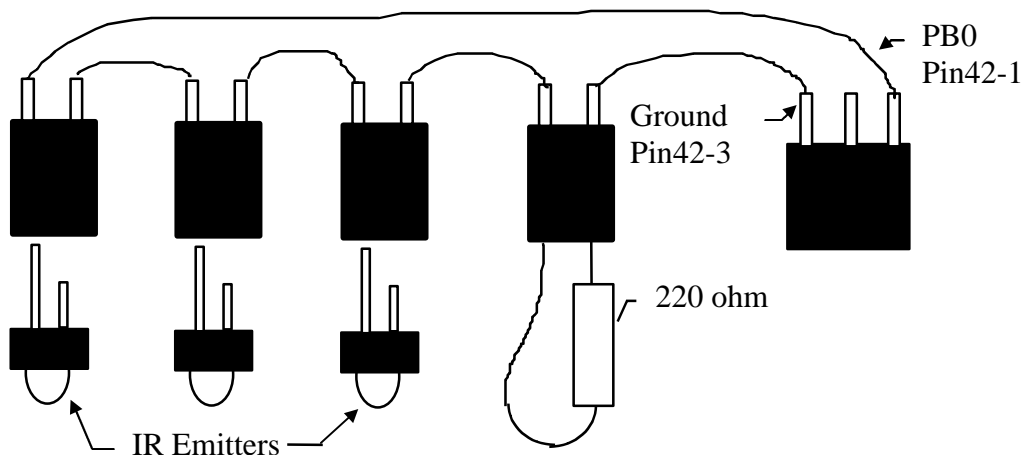

Figure 24 IR Emitter Circuit.
1. Make three, 2-pin female connectors for the three IR emitters (Figure 24).
3. Wire the three IR emitter, 2-pin, female connectors in series with the 220ohm resistor-jumper constructed in step 1 (Refer to Figure 10 and Figure 24). Suggested colors: yellow and green wire.